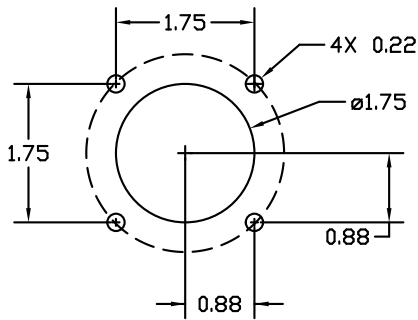

Figure 2: Hole Drill Pattern - Economy Sinks
1. Drill a hole pattern with the dimensions (shown in Figure 2) on the front face of the back sink basin wall. Note: Drilling may not be needed if pattern already exists.